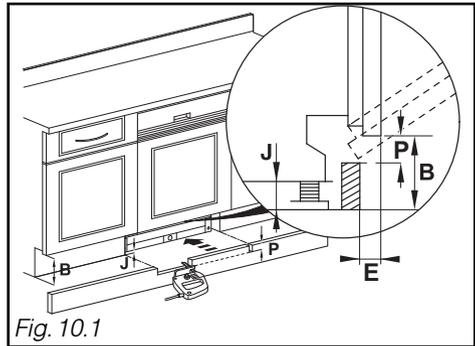

Fig. 10.1
Refit the plinth, cutting it away if necessary according to Dimension **P** (see table and Fig. 10.1)
- Measure the plinth depth **E** (Fig. 10.1) between the unit's plinth and front of the unit. Take the value for **P** from the table provided by **E** and **B - J** (e.g. if **E = 100** and **B - J = 140**, then **P = 23**).